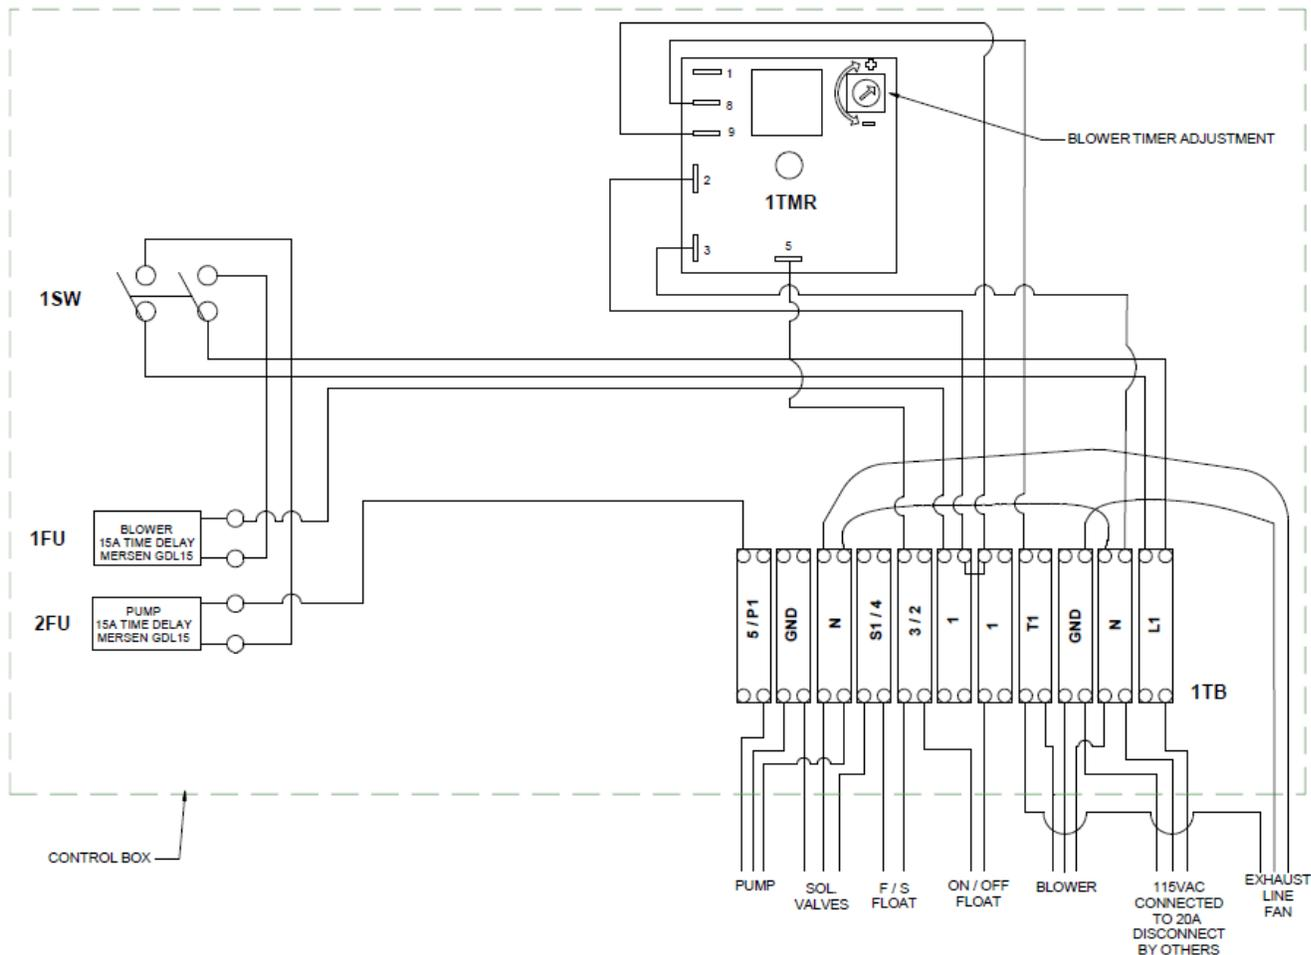

FIG 6
6. Connect the power line to the control panel as shown in the applicable wiring diagram (See Figures 6, 7, 8, 9 - on pages 12-15).